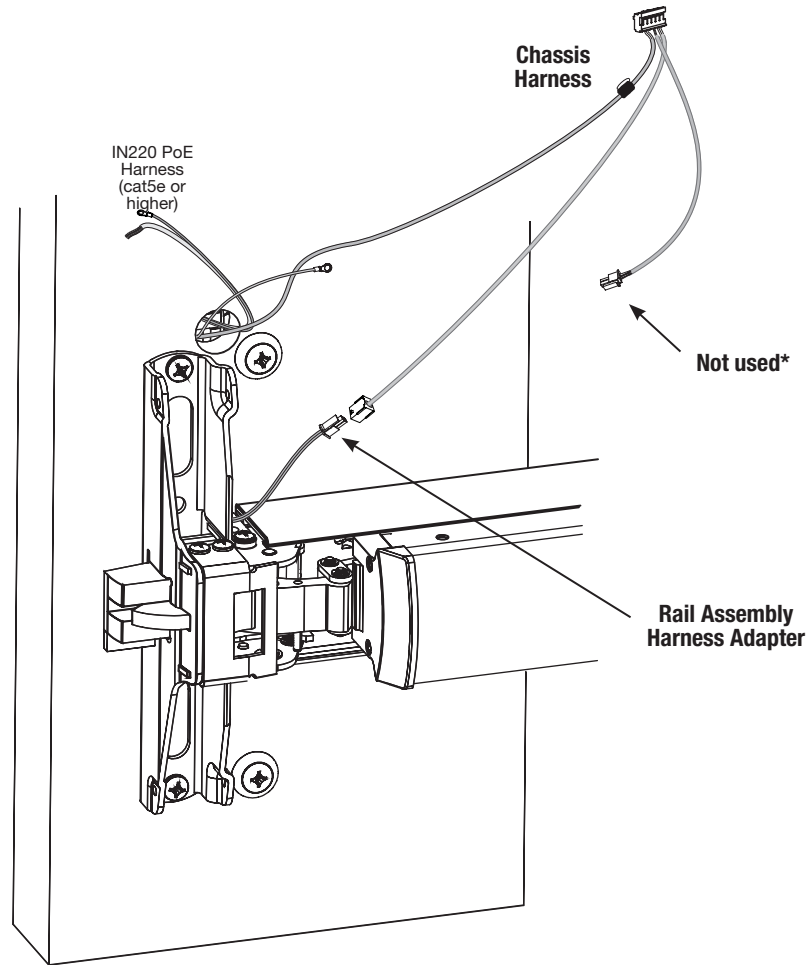

Fig. 6
- Connect motor harness adapter to chassis harness connector (Fig. 6).
- Connect rail assembly harness adapter to chassis harness connector (Fig. 6).